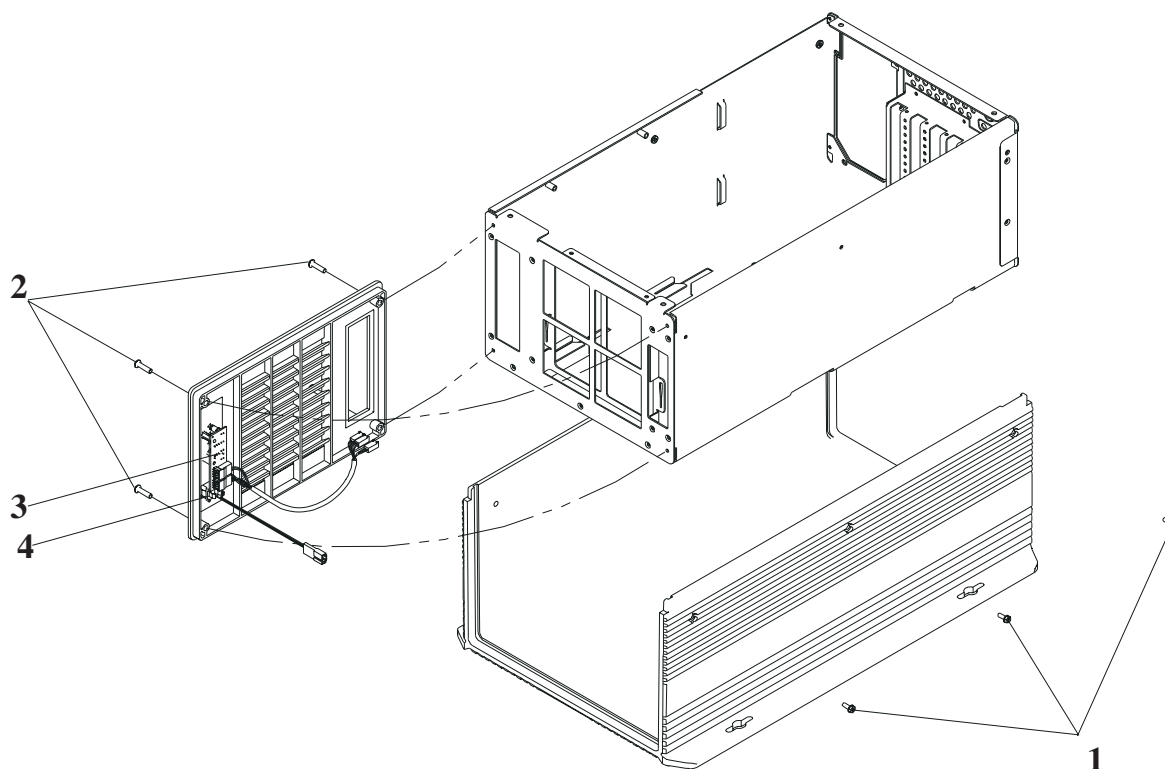

Figure 8-1. Removing and Replacing the LED Assembly
4. Press the retaining clips on each side of the power switch (**4** in Figure 8-1 on page 8-33), and slide the switch out of the fascia.